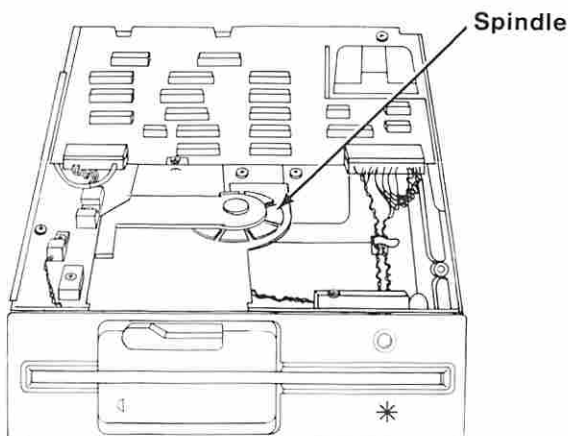

Figure 14. Diskette Drive Spindle
- Power on the system and observe the spindle on diskette drive A (Figure 14 on page 0600-23).